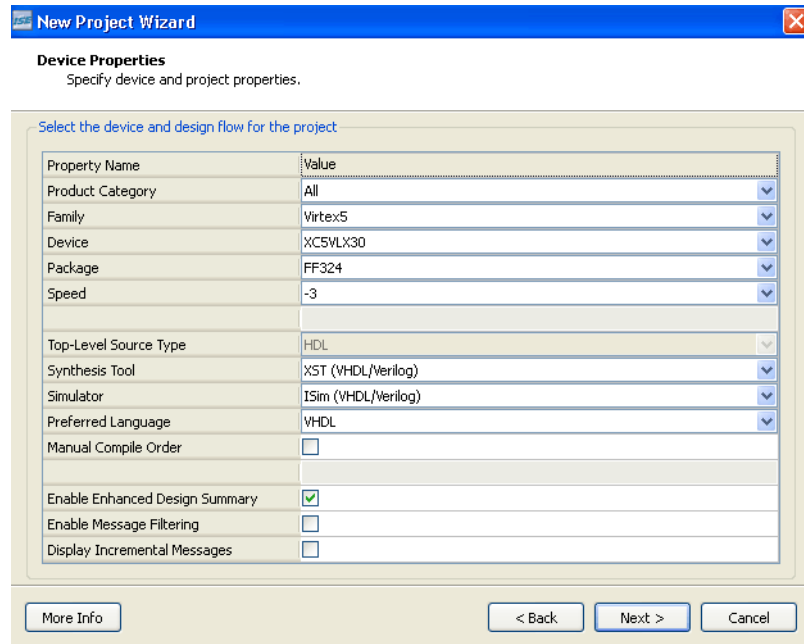

Figure 2-3: Change the Settings
6. Change the settings to match the settings shown in Figure 2-3.